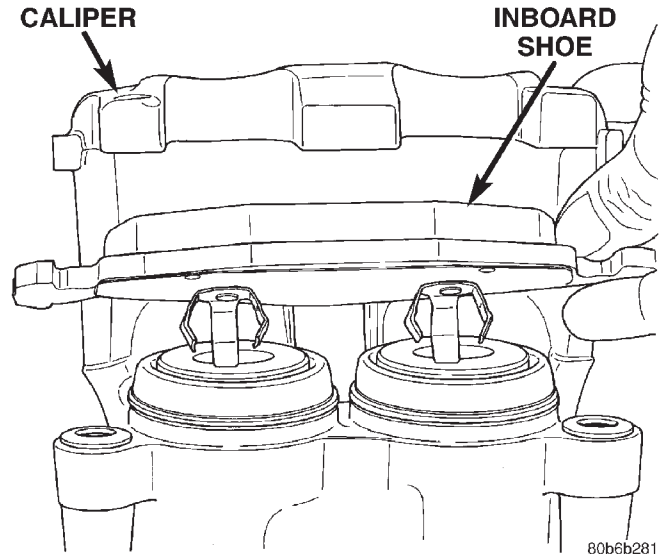
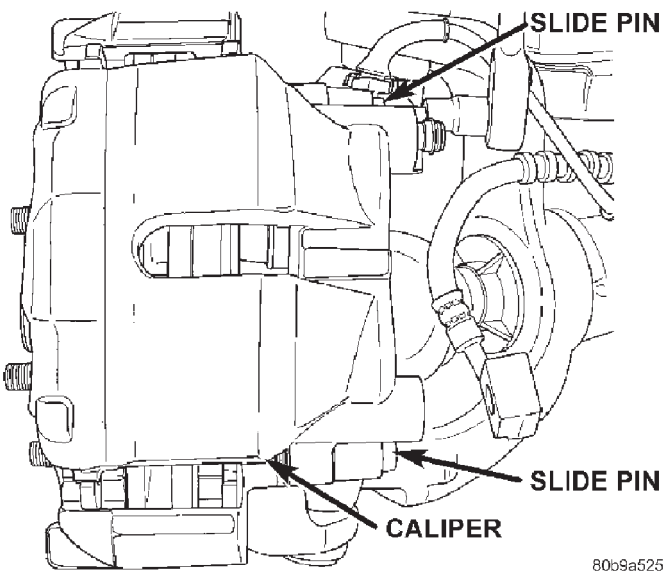

Fig. 26 Inboard Brake Shoe
Fig. 25 Slide Pins
- (7) Remove the caliper slide pin bushing caps and remove the slide pins (Fig. 25).
- (8) Remove caliper from the anchor.
- (9) Remove the inboard brake shoe (Fig. 26).
- (1) Install the inboard brake shoe (Fig. 26).
- (2) Lubricate the slide pins and slide pin bushings with Dow Corning® grease G807 or the grease provided with the caliper.
- (3) Install the caliper on the anchor.
- (4) Install the caliper slide pin and tighten to 29-41 N·m (21-30 ft. lbs.).
- (5) Install the caliper slide pin bushing caps.
- (6) Install the caliper support spring in the top end of the caliper and under the anchor. Then install other end into the lower caliper hole. Hold the spring